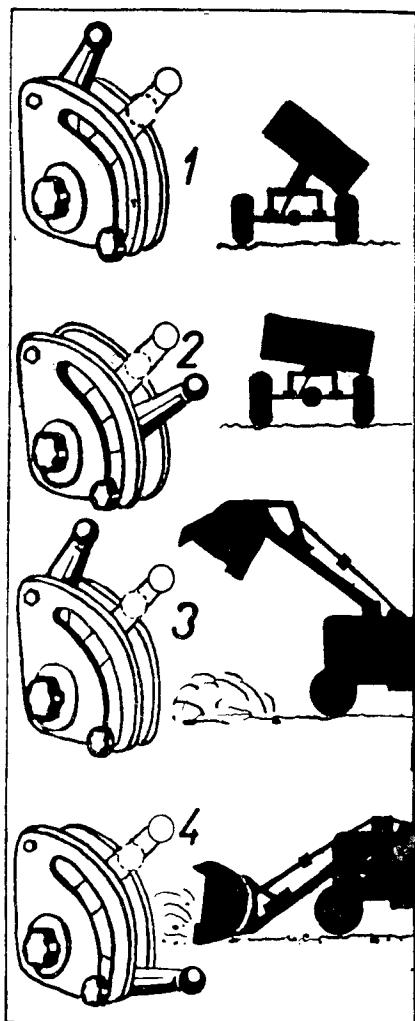

Fig. 81
B. The outer circuit has 5 positions (Fig. 81)
(Fig. 81/3)
(Fig. 81/4)
charging (Fig. 81/1)
(Fig. 81/2)